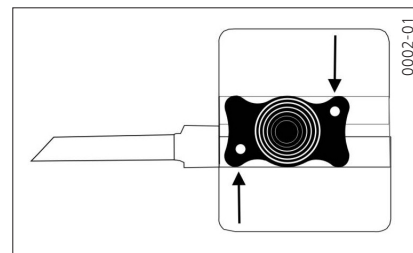
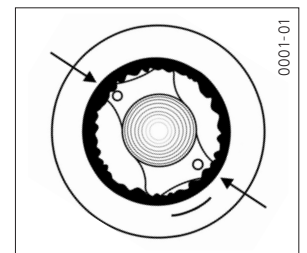

Fig. 2: Example of the IOL position in a cartridge
Fig. 3: IOL position in the capsular bag
4. IOLs with two circular marks on the haptic should be placed in the cartridge with one circular mark in the upper left corner and one in the bottom right corner, as shown in figure 2. Figure 3 shows the correct position of the marks of the IOL in the capsular bag.